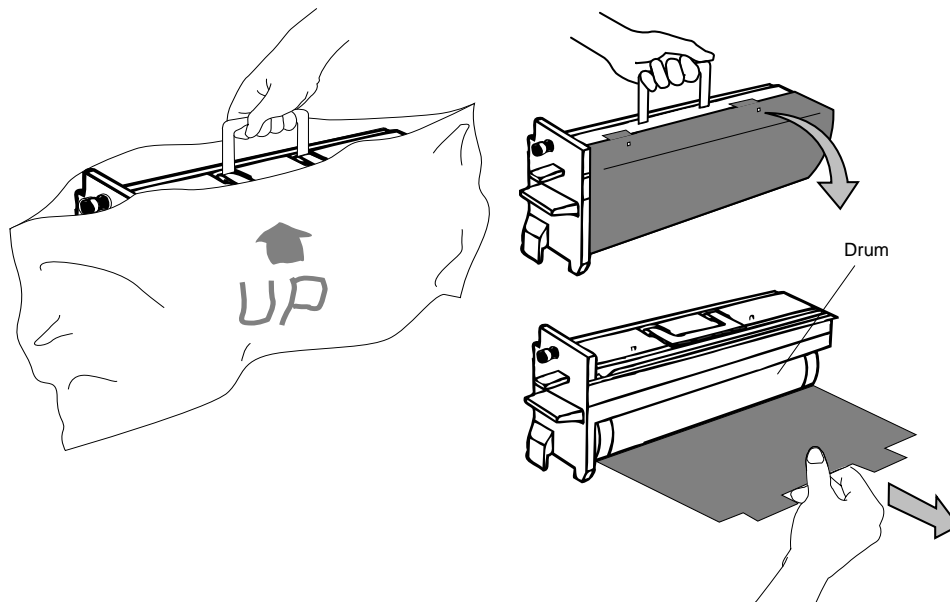

Figure 2-30 Unpacking the Drum and Removing the Protective Cover
2. Open the vacuum sealed bag containing the drum and remove the contents, as shown in Figure 2-30.